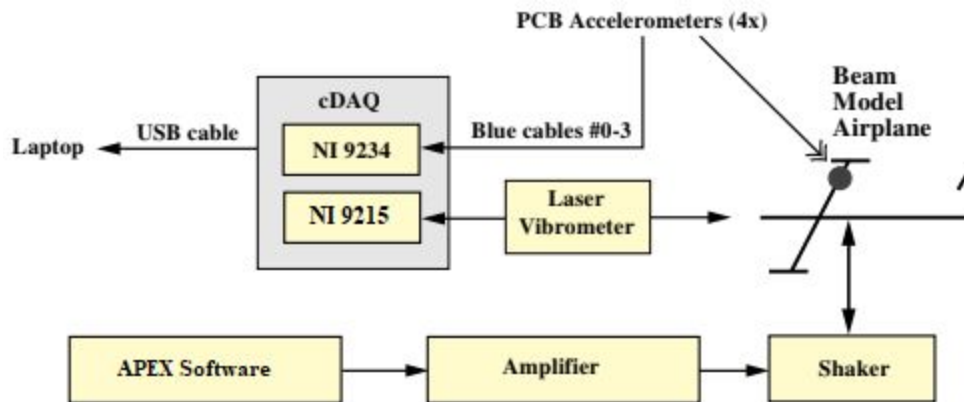

Figure 1: Wiring Diagram for Vibration of Beam Model Airplane
6. Check all connections by comparing to Figure 1.